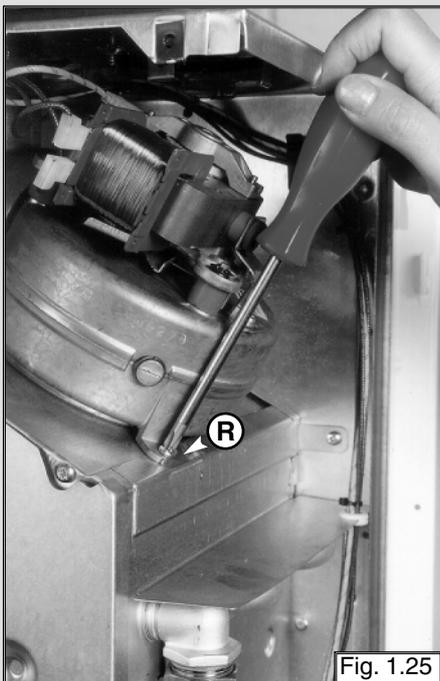

Fig. 1.25
2. Remove screws "R" (see fig. 1.25).